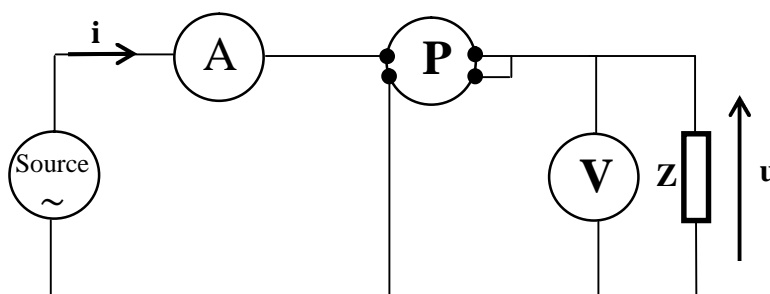

Figure 4
Carry out the assembly shown in Figure 4:
2. Complete the following tables (assembly fig.4).